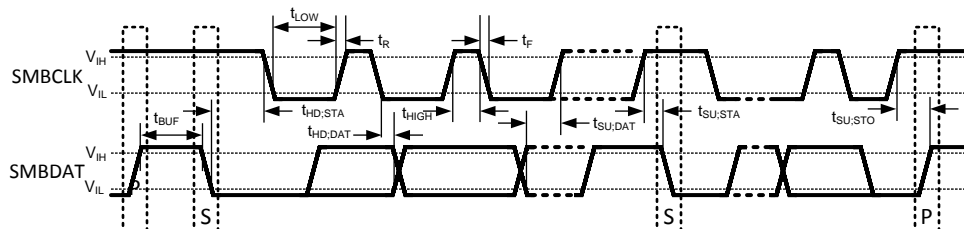

Figure 2. SMBus Communication
- (1) Absolute Maximum Ratings indicate limits beyond which damage to the device may occur. Operating Ratings indicate conditions for which the device is ensured to be functional, but do not ensure specific performance limits. For ensured specifications and test conditions, see the Electrical Characteristics. The ensured specifications apply only for the test conditions listed. Some performance characteristics may degrade when the device is not operated under the listed test conditions. Operation of the device beyond the maximum Operating Ratings is not recommended.
- (2) When the input voltage (V_I) at any pin exceeds the power supplies (V_I < GND or V_I > V_{DD}), the current at that pin should be limited to 5 mA. Parasitic components and or ESD protection circuitry are shown in Figure 2 and Table 1 for the LM95241's pins. Care should be taken not to forward bias the parasitic diode, D1, present on pins: D1+, D2+, D1-, D2-. Doing so by more than 50 mV may corrupt the temperature measurements.
- (3) Thermal resistance junction-to-ambient when attached to a printed circuit board with 1oz. foil and no air flow: